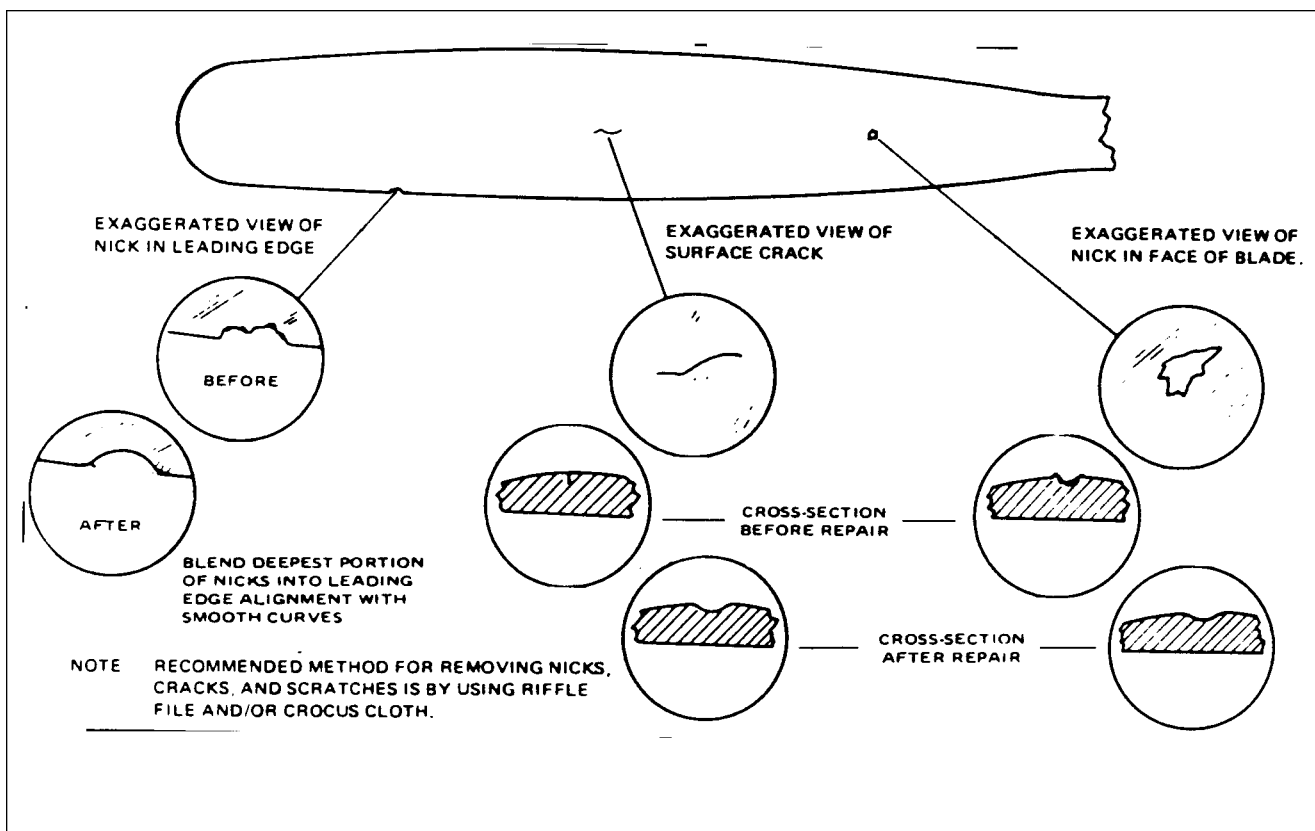

Figure 61-1. Typical Nicks and Removal Method
CLEANING, INSPECTION, AND REPAIR OF PROPELLER (figure 61-1)
- b. Use fine emery cloth for finishing. (Refer to figure 61-1 for propeller blade care.)